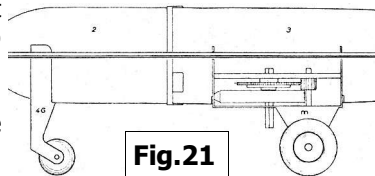

Fig.21
**The New Parts: #46** Nose Wheel Leg. It is shown in place in Fig 21; the Rod 10 passes through a hole in the upper part of the Leg but it isn't clear if Nuts are used to hold it in place. **#48** Wing Tip Tank, plastic and often called 'Rockett' in the instructions. **#50** Full-Span Wing Spar. It is probably a little shorter than the #32 in Phase 1. **C/W Motor** It drives the Wheels and can be seen in place above. It can only be fitted to fuselages that have a special large hole in their underside, see the left fuselage in Fig 26. The Rod 10 passes through holes in the casing, but again it isn't clear if it is held fast on it. The Motor unit has Wheels, often 2 on each side, and of course replaces the standard wing-mounted undercarriage. • The various **fuselages** will be described as they occur, but apart from the two main changes, many variations in the cutouts & pressed through 'bobbles' (air intakes, exhaust stubs, etc.) in the Nose Section are found. • A plastic **Propeller**. • Rubber **Wheels**. • The Phase 2 **Cockpit Canopy** was used at first but was then replaced by a clear moulded bubble canopy. • A plastic **Nose Cap** to fit to the jet model.